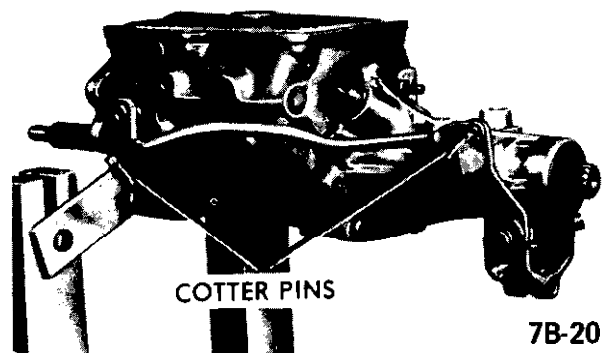

Figure 7B-20 Cotter Pin Locations on Shifter Shaft
1. Remove cotter pins that secure each end of shifter shaft. See Figure 7B-20.